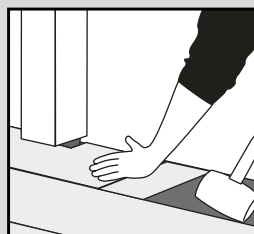

Fig. 7
- Under door frames: If plank/tile cannot be lifted use an adapted tapping block (off-cut of material) and mallet to carefully tap the plank/tile together flat on the floor (Fig. 7).